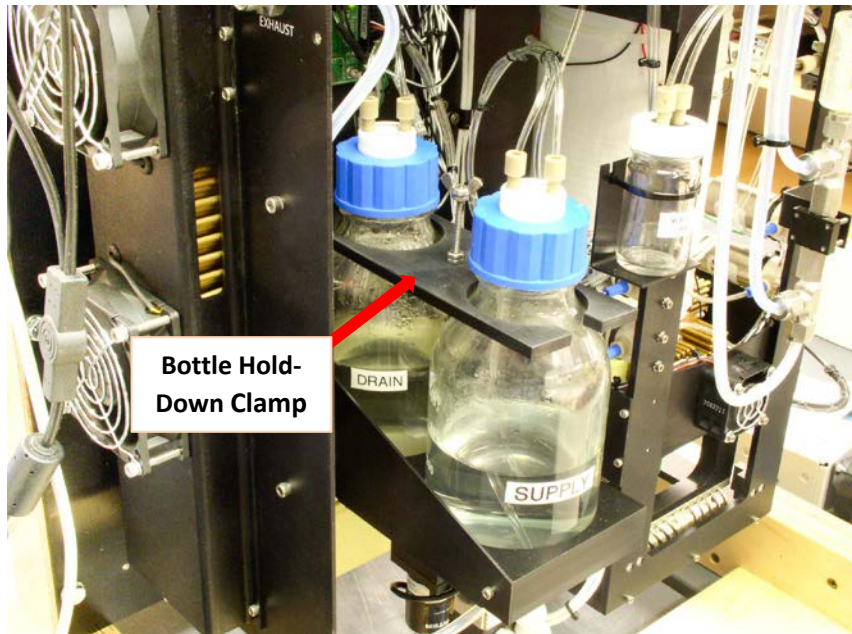

Figure 2: Bottle Hold-Down Clamp
3. Install the drain bottle in the bottle holder. The best location for the drain bottle is in the rear of the bottle tray. See Figure 2.
5. For airborne applications, install the bottle hold-down clamp (Figure 2) shows the hold-down clamp on a CCN-100 instrument.